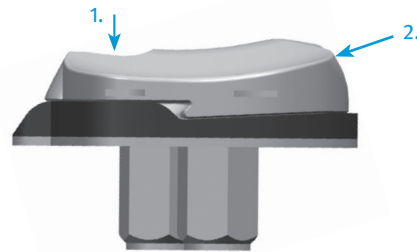
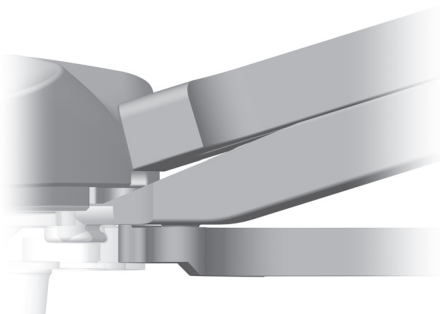
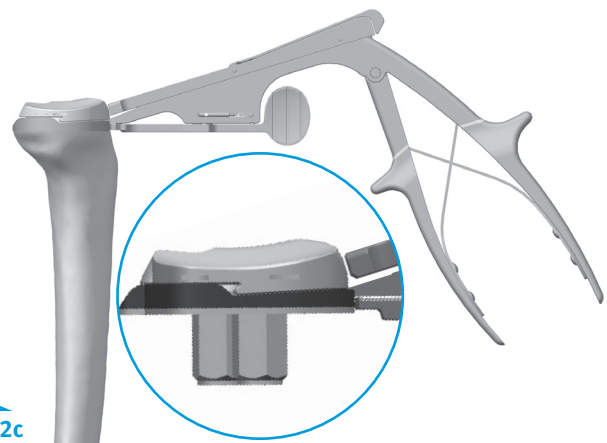

Fig. 22a
Fig. 22b
Fig. 22c
- The Articular Surface Inserter applies both downward and rearward forces to aid in the insertion of the articular surface onto the tibial base plate. Choose the correct tibial articular surface based on size, side, constraint and thickness as determined by the trial range of motion. Place the articular surface onto the *Persona Trabecular Metal Tibial Tray*, apply pressure anterior to posterior to properly engage the tibial component and tibial articular surface for final seating. This is necessary to allow the inserter to properly engage the tibial component and tibial articular surface for final seating (**Fig. 22a**). Steady the surface of the *Persona Trabecular Metal Tibial Tray* with one hand by applying downward pressure near the posterior cruciate cutout. Engage the hook on the Articular Surface Inserter with the mating slot in the front of the *Persona Trabecular Metal Tibial Tray* and close the lever with your index finger. This locks the inserter to the *Persona Trabecular Metal Tibial Tray* (**Fig. 22b**). Squeeze the handle of the Articular Surface Inserter to seat the articular surface (**Fig. 22c**). Open the lever and remove the Articular Surface Inserter.